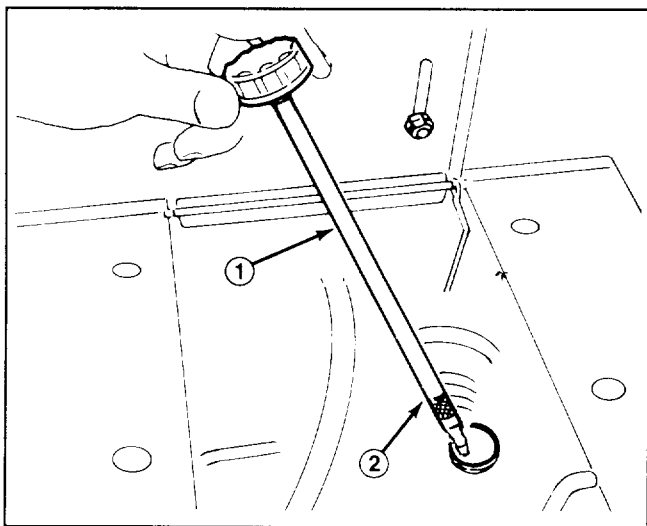

Figure 4
3. Remove dipstick from fill tube (Fig. 4).
5. Slowly pour oil into crankcase (Fig. 4). The engine uses any high quality detergent oil having the American Petroleum Institute — API — “service classification” SF or SG. Oil viscosity — weight — must be selected according to anticipated ambient temperature.
to FULL mark on dipstick (Fig. 4). If level is low, add only enough oil to bring level up to FULL mark.